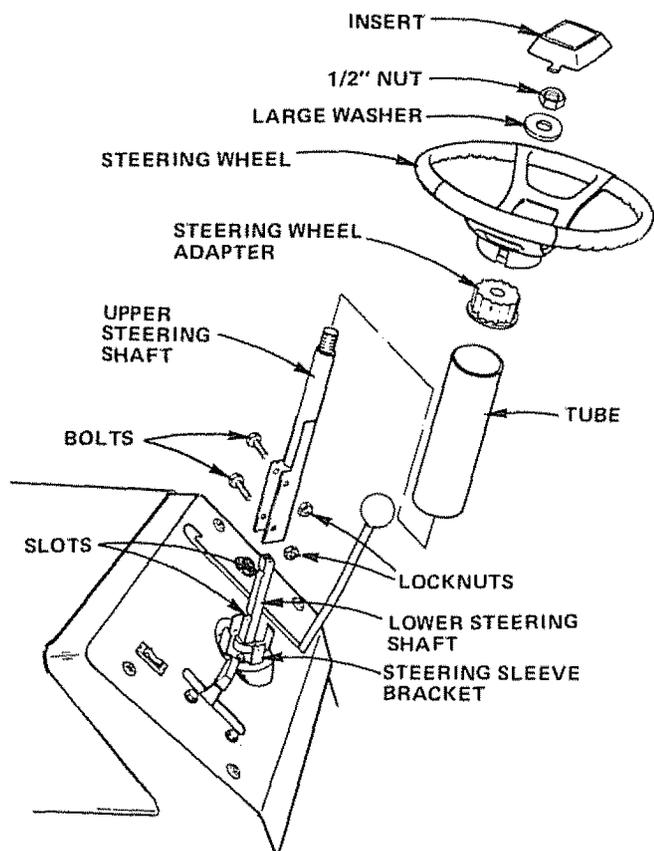

FIGURE 1
2. Slide Upper Steering Shaft over Lower Steering Shaft so bolt holes line up with slots in Lower Steering Shaft (Fig. 1).